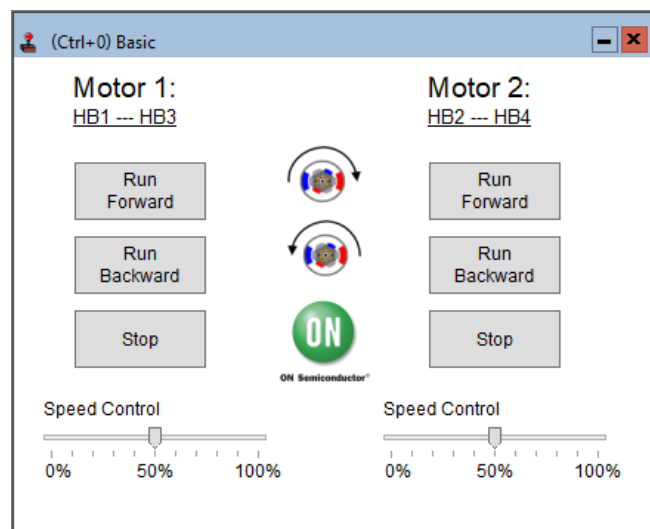

Figure 8. NCV7544 Controller Framework, Basic Window
11. “Basic” window (Figure 8) demonstrates simple control of two loads including direction and speed control. The translated commands are reflected in lower levels, down to SPI communication frames.